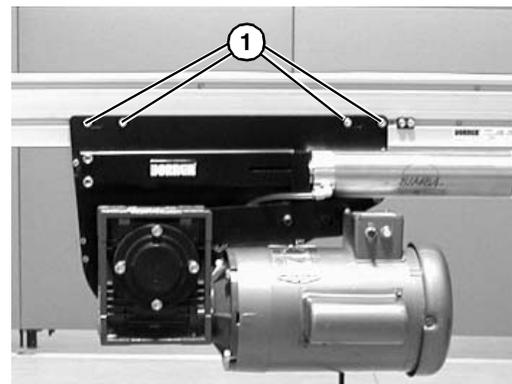

Figure 43
2. If necessary, adjust the tracking cam: loosen the center drive fastening screws (**Figure 43, item 1**) on the side of center drive to be tracked.
4. Tighten the center drive fastening screws (Figure 43, item 1) to 146 in-lbs (16.5 N-m).